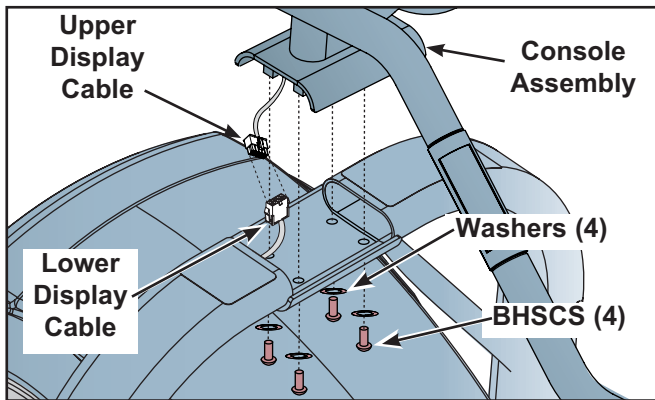

Figure 4
- A. Using a 7/32" Allen wrench, remove the four Button Head Socket Cap Screws (BHSCS) and lock washers securing the console assembly. See Figure 4.
- D. Carefully unplug the display connector. See Figure 4.